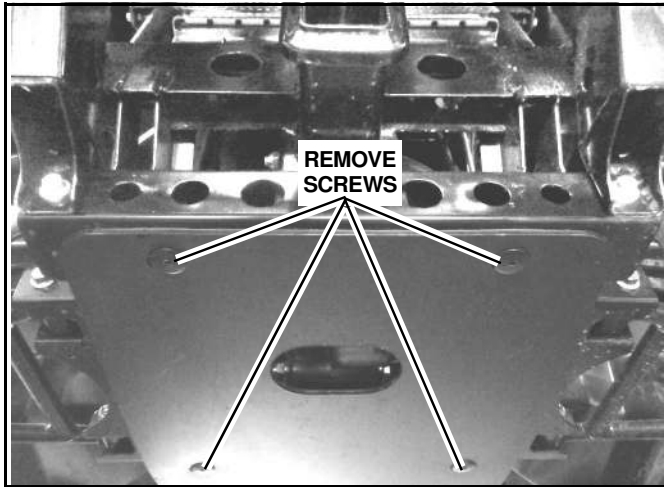

Figure 3
- Remove four screws from the front of the bottom skid plate. (See Figure 3.)